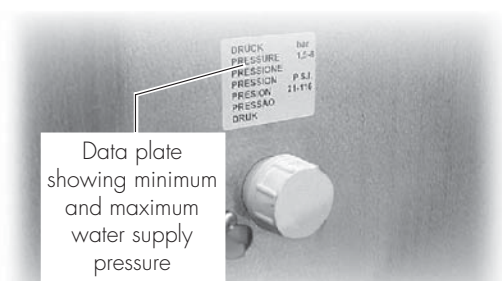

Fig. 6
Water mains pressure:	see figure 6
- use water jets to clean the vending machine (Fig. 6).